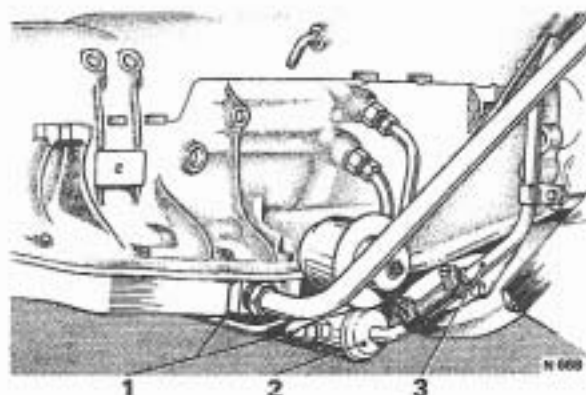

FIG. T184 HEAT EXCHANGER FLUID PIPES (EARLY CARS)
4. Remove the heat exchanger fluid pipes (see Fig. T184). Blank off the feed and return holes in the case and the heat exchanger.